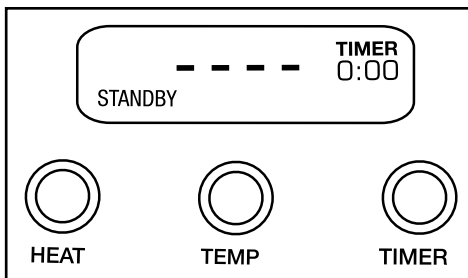

Figure 1
- 120, 208 and 240 volt units are supplied with a molded 3-prong grounding-type plug and should be used in combination with a properly connected grounding-type outlet, as shown in Figure 1.
NOTE: The Induction Range requires induction-ready cookware. If the pan is not induction ready, it will not register on the induction range. The LCD display will show “-----” and “STANDBY” will flash (as seen in figure 1) when attempting to select a